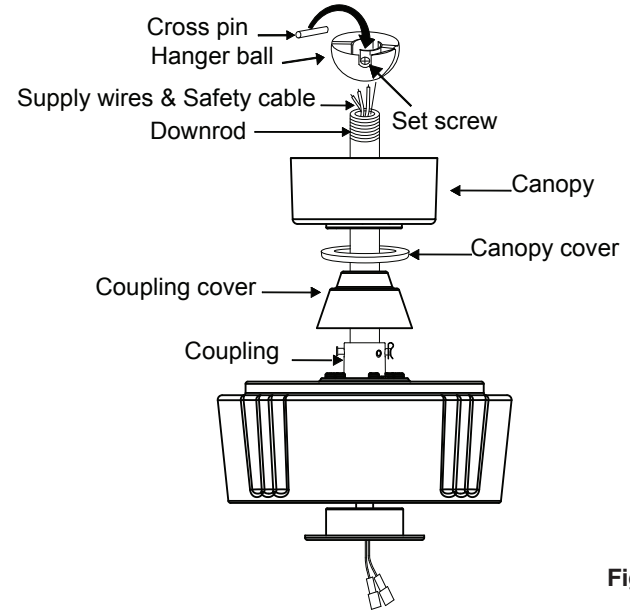

Fig. 10
Step 8. Slip the coupling cover, canopy cover and canopy onto the downrod. (Fig. 10)